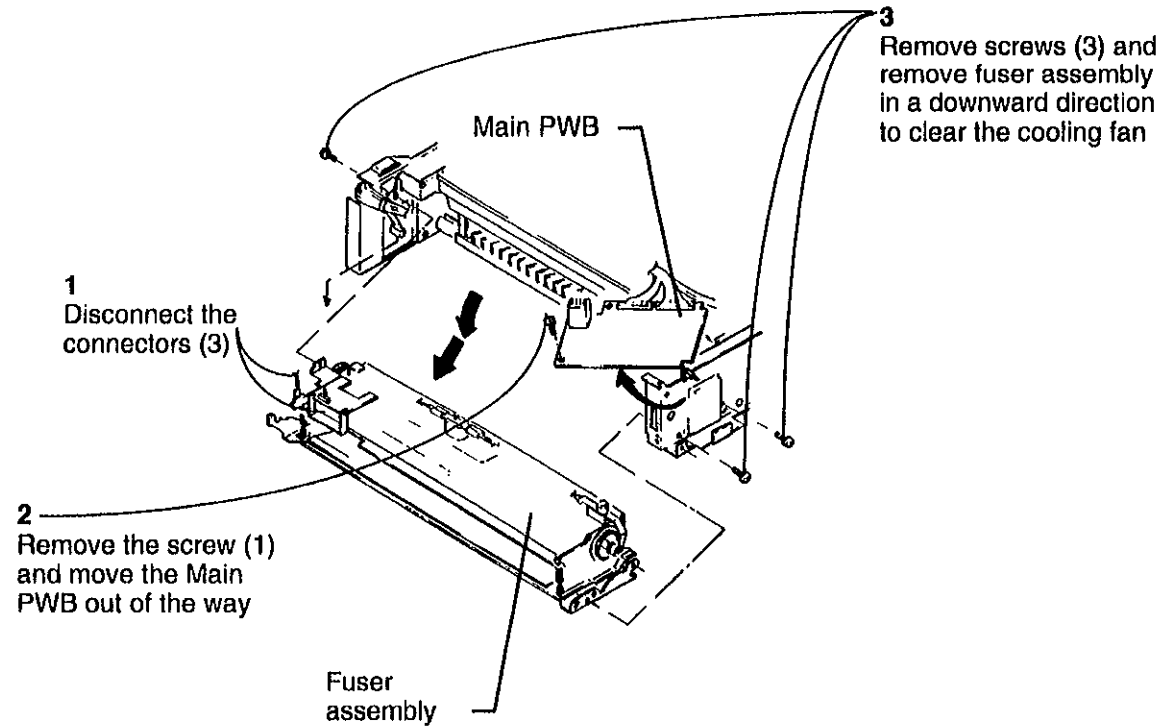

Figure 1. Removing the Fuser Assembly
- 2 (Figure 1): Move the main PWB out of the way in order to access the two screws. (REP 3 1)
- 3 (Figure 1): Remove the fuser assembly.